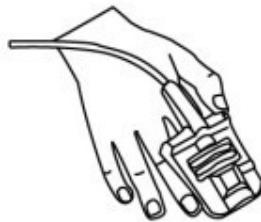

Figure5-2
Figure5-2 shows how to put your finger in the sensor.
- Place the SpO₂ sensor cable at the backside of the patient hand as Figure 5-2. Make sure the fingernail is just opposite to the light emitted from the sensor.